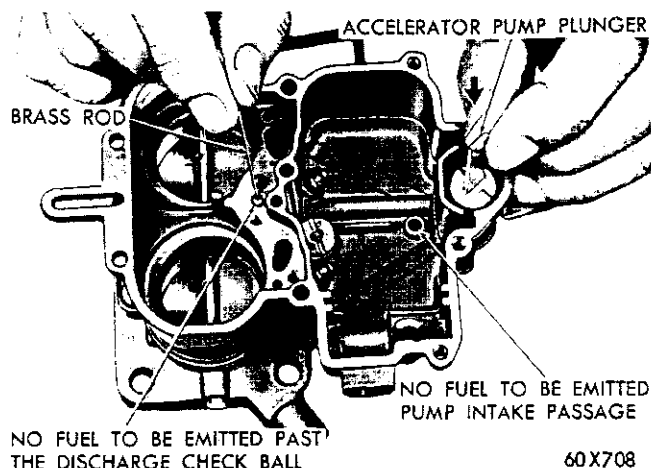

Fig. 17—Testing the Accelerator Pump
(2) Using a small clean brass rod, hold the discharge check ball firmly down on its seat. Raise the pump plunger and press downward. No fuel should be emitted from either the intake or discharge passage, as shown in Figure 17.
(3) If any fuel does emit from either the intake or discharge passages, it indicates the presence of dirt or a damaged check ball. The passages should be recleaned and then thoroughly blown out with compressed air. Examine the check ball for signs of damage that would not allow the ball to seat properly.
(4) Reinstall the check ball and test again. If still leaking, place a piece of drill rod down on the check ball and rap sharply with a hammer. Remove the old check ball and install a new one. Then retest. (This operation forms a new ball seat in the carburetor casting.)